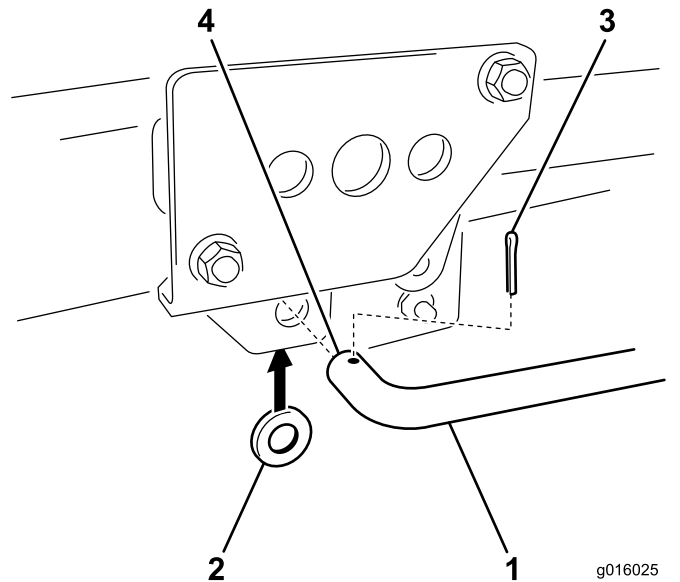

Figure 8
5. Install the bent end of the lift rod in to the large offset bracket from the outside (Figure 8). Install a washer over the protruding end and secure it with a cotter pin.